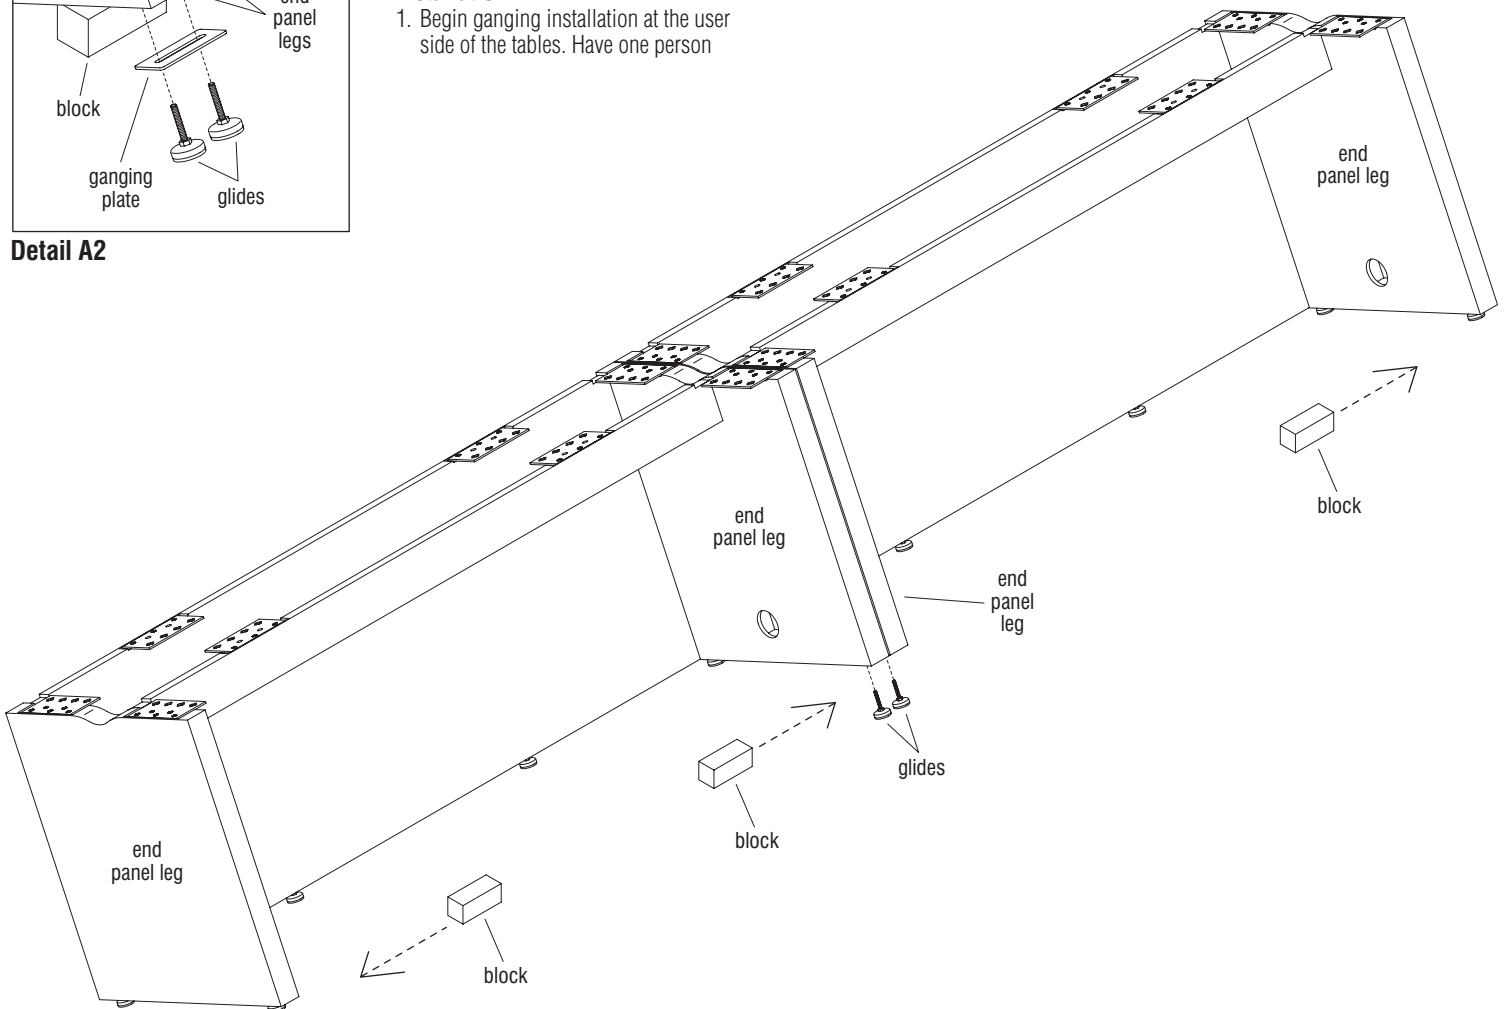

Figure 14
positioned at each single leg and at each pair of legs to be joined, then carefully lift, to tilt the tables to be join back enough for a third person to insert one block under each single leg and under the pair of legs to be joined. Place blocks just behind the user side glides as illustrated. Once all blocks are in position, the table legs can be lowered onto the blocks (Figure 14).
2. Twist to remove the front, user side glides on the legs to be joined (Figure 14 & Detail Z).